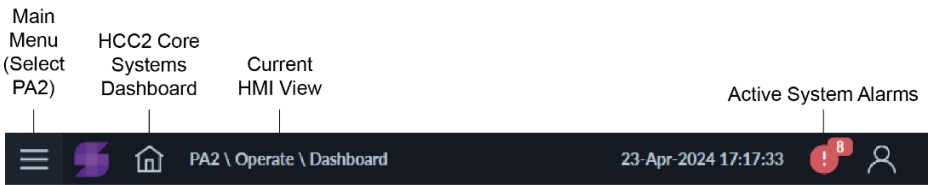

Figure 7.3—HMI navigation bar
- When active system alarms exist, the number of active alarms will appear in the navigation bar next to the alarm icon (Figure 7.3). These are not PA2 alarms but rather system alarms detected by the HCC2.